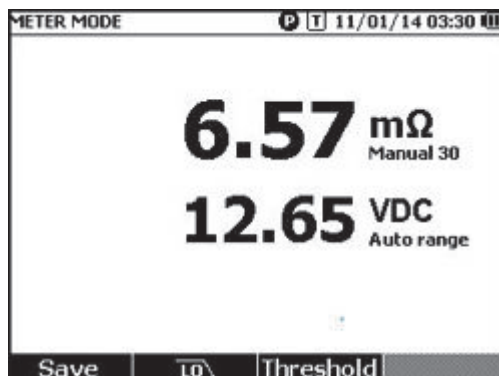

**Figure 3-2. Connect Test Probe to Battery**
*Stable and correct readings are shown only when both the inner tip and the outer tip of the test probe are fully connected to the battery posts. To get more accurate battery internal resistance reading, do not connect the test probes to screws. See Figure 3-2.*